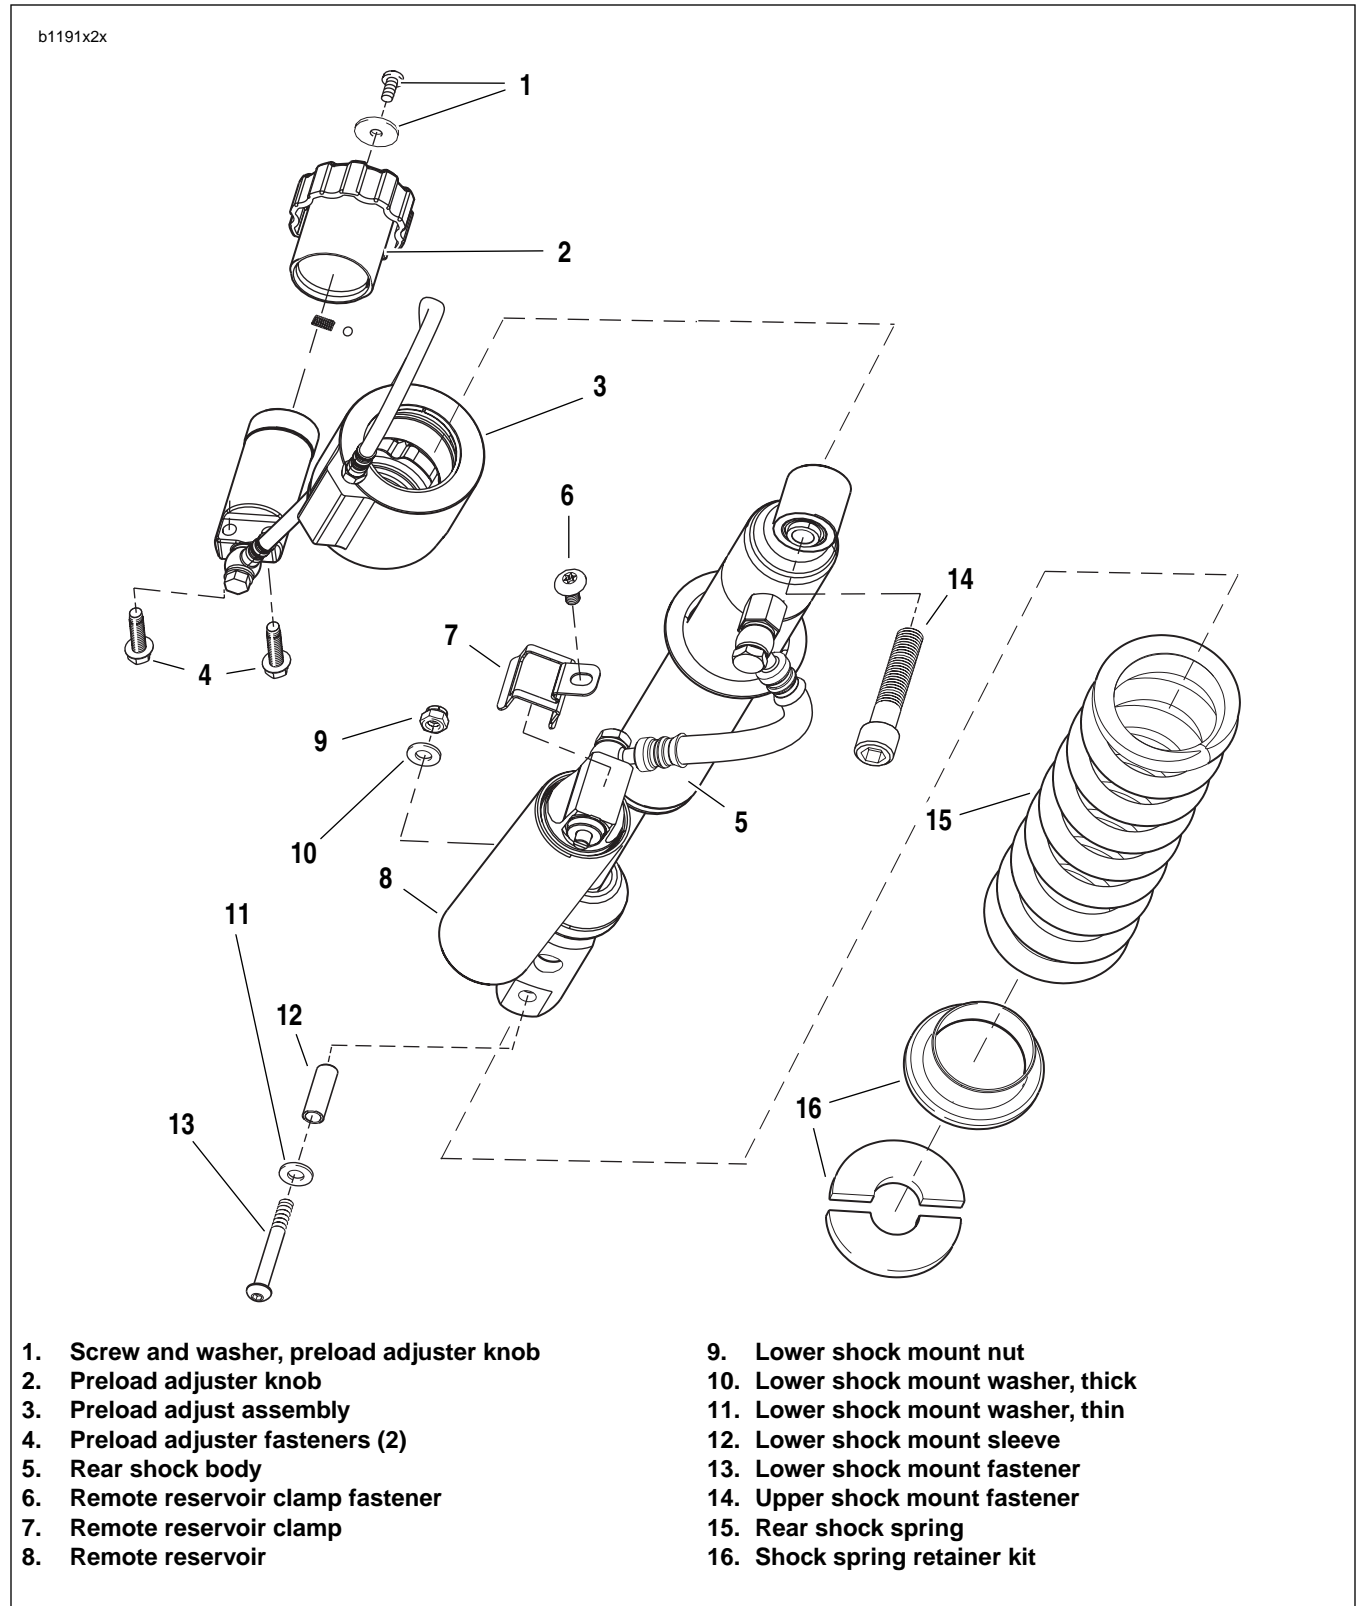

Figure 2-94. Rear Shock Absorber Assembly
7. See Figure 2-94. Remove reservoir retainer fastener (6) and retainer (7).
8. Remove the two fasteners (4) holding the preload adjuster in place.
9. Remove the nut (9) and thick washer (10) from the lower shock bolt and raise scissor jack until the lower bolt can be removed by hand.
1. See Figure 2-94. Lower rear shock assembly, preload adjuster assembly and remote reservoir into position.